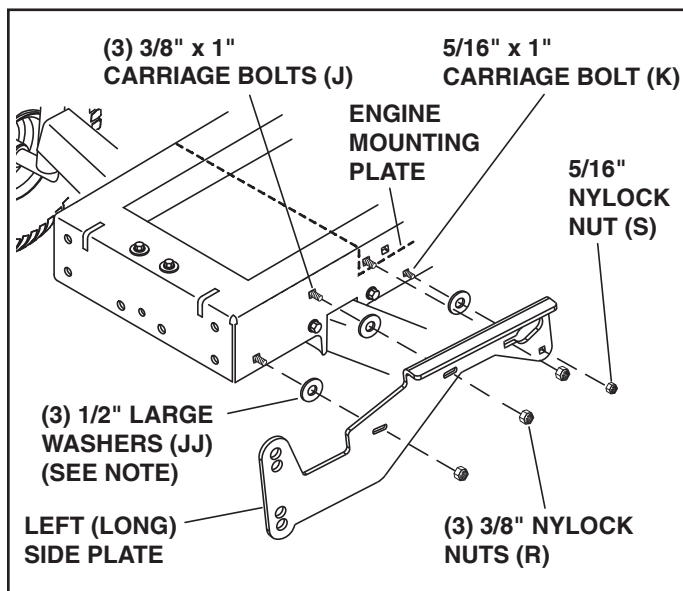

FIGURE 19
STEP 20: INSTALL SIDE PLATES (SEE FIGURE 19)
- Install the left (long) side plate on the tractor frame using three 3/8" x 1" carriage bolts (J), three 3/8" nylock nuts (R), one 5/16" x 1" carriage bolt (K), one 5/16" nylock nut (S) and three large 1/2" washers (JJ) if needed (see note). **Do not tighten yet.** Repeat for the right (long) side plate.